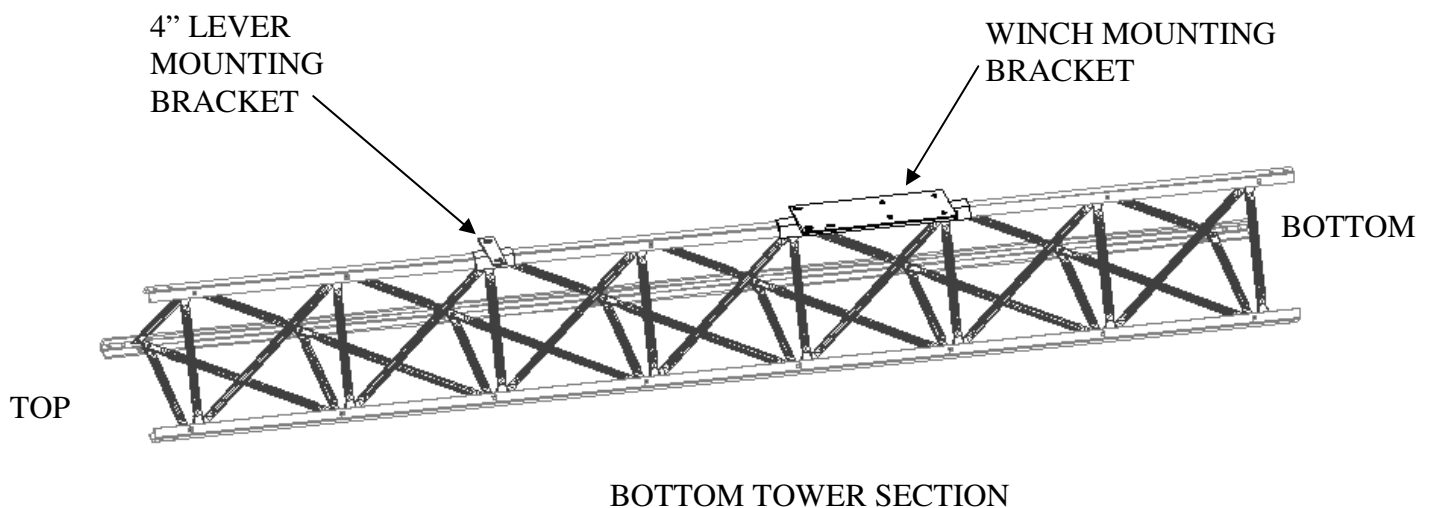

Figure 1 – Bottom Tower Section with Mounting Brackets Installed
1. Attach the winch mounting bracket (item 14) to the bottom tower section on the tower leg (item 3) between the 3rd and 4th rung from the lower end of the tower section (item 4); the single elongated hole of the winch mounting bracket must be on the upper right. (Note all three tower sections are identical except that the bottom section has an ANS logo located on the bottom of one of the tower sections' legs.) Use 5/16" x 1 1/2" hex bolts and hardware (items 20, 21, 22) with the head of the bolt outside the tower leg. See Figure 1.
2. Attach the first 4" lever mounting bracket (item 8) at the 6th rung from the bottom, 2 rungs up from the winch bracket with 5/16" x 1 1/2" hex bolts and hardware (items 20, 21, 22). See Figure 1.